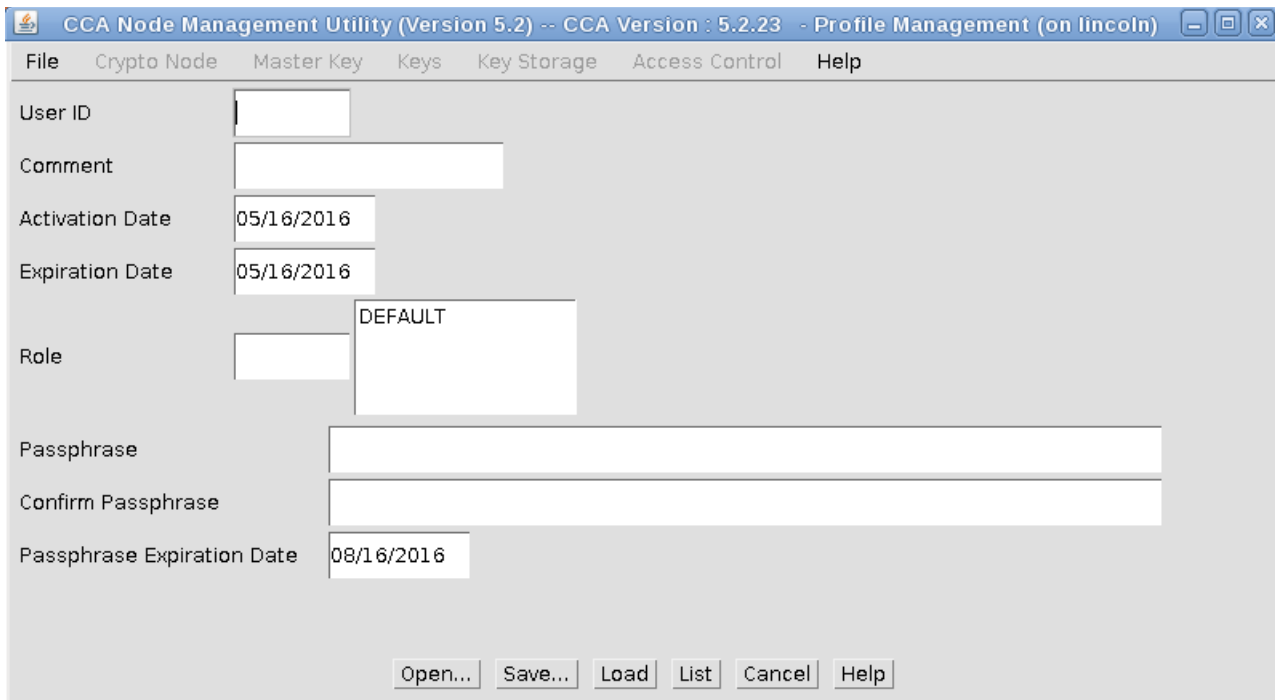

Figure 4. Profile Management panel
2. Select **New** to display the Profile Management window. See Figure 4 on page 28, to view the fields of the Profile Management window.